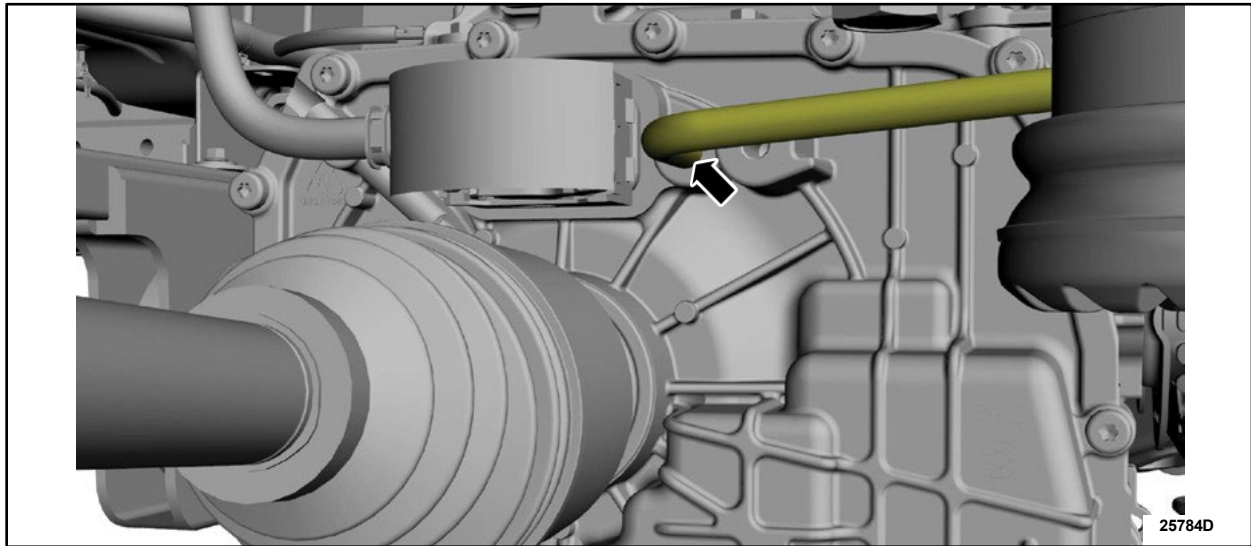

FIGURE 9
13. Disconnect the rear electric drive assembly vent hose and position aside. See Figure 9.